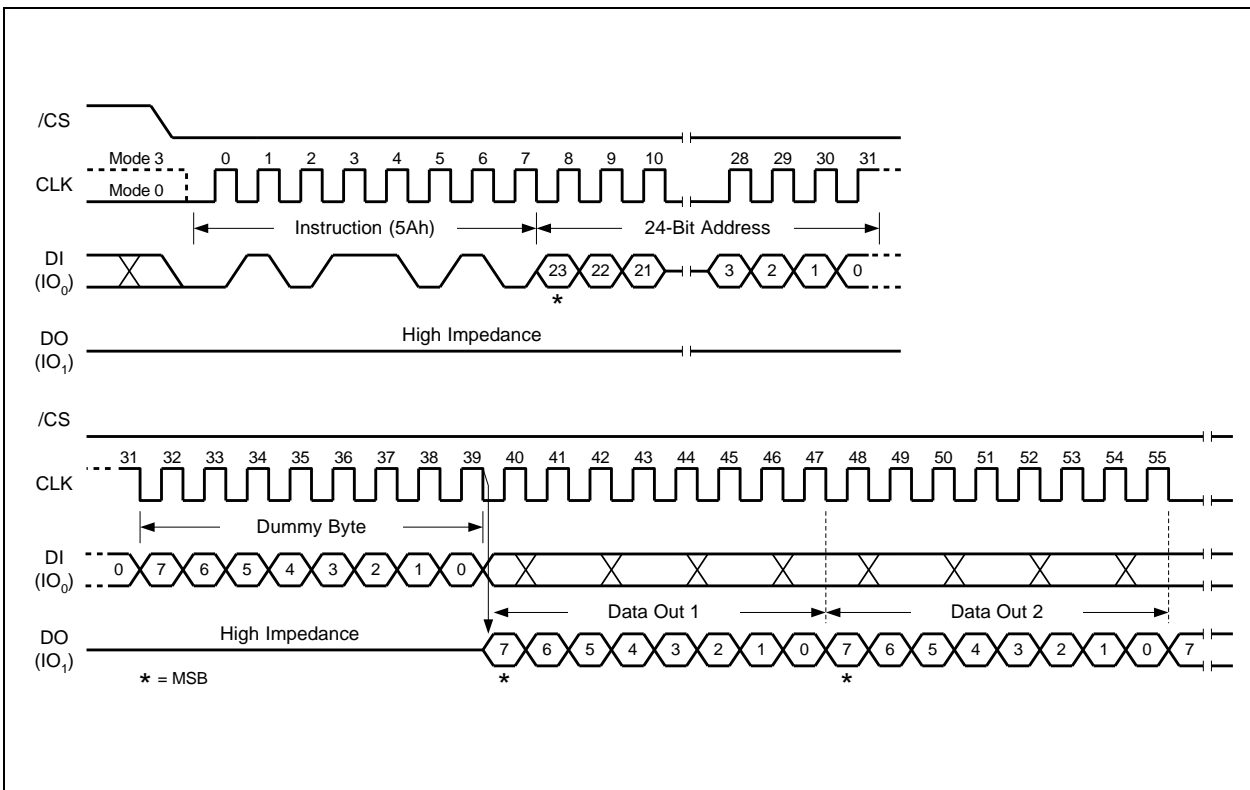

Figure 44. Read SFDP Register Instruction Sequence Diagram
The Read SFDP Instruction is initiated by driving the /CS pin low and shifting the Instruction code “5Ah” followed by a 24-bit address (A23-A0)(1) into the DI pin. Eight “dummy” clocks are also required before the SFDP register contents are shifted out on the falling edge of the 40th CLK with most significant bit (MSB) first as shown in Figure 44. For SFDP register values and descriptions, please refer to the Winbond Application Note for SFDP Definition Table.